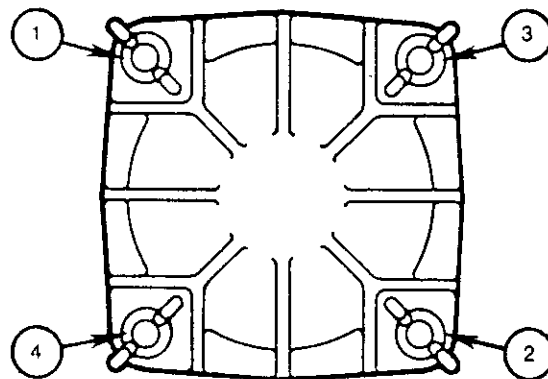

Figure 3
- f. Replace washers and wing nuts. Tighten wing nuts in a sequence as shown in Figure 3, until they bear on the cover, then turn wing nuts an additional $\frac{1}{4}$ to $\frac{1}{2}$ turn.